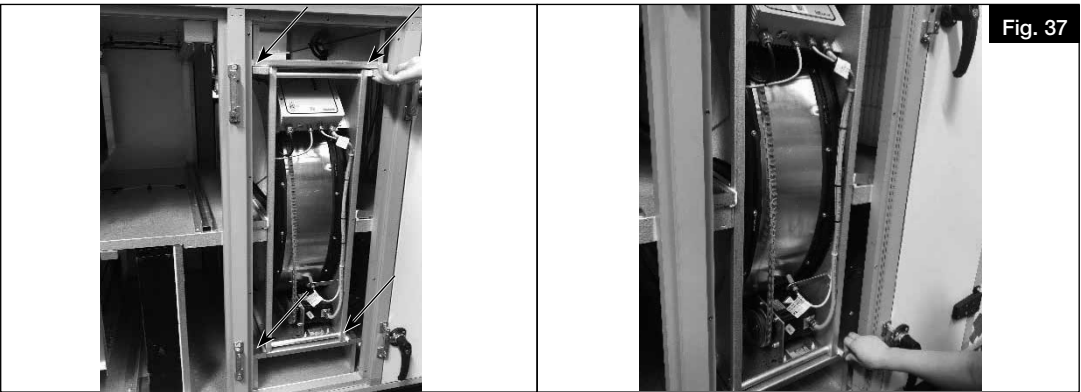

Fig. 37
3. Pull the latches to unlock the heat exchanger (see Fig. 37).